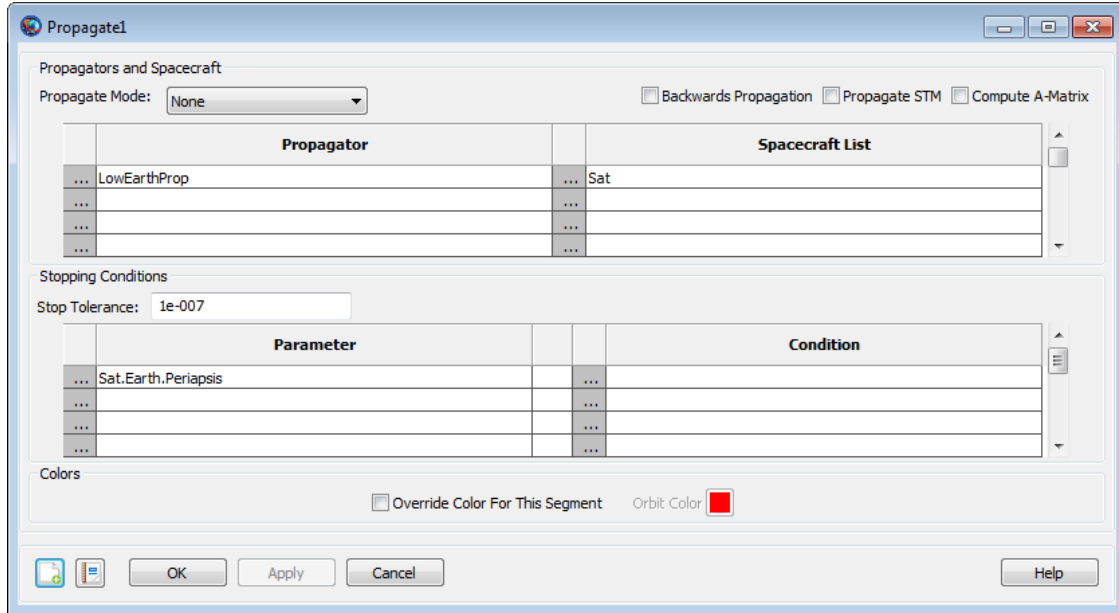

Figure 16. Propagate Command Configuration
6. Click **OK**. Your screen should now match Figure 16.